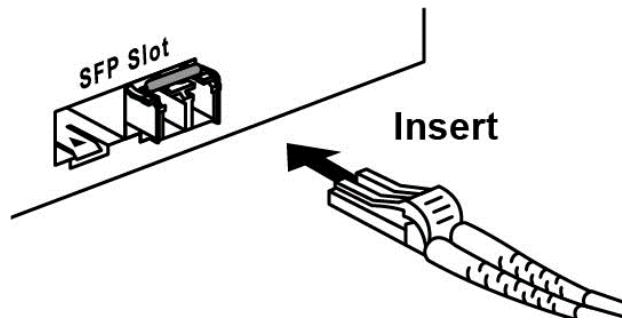

Figure 2.6: LC Connector to the Transceiver
Step 2 Insert the fiber cable of the LC connector into the transceiver as shown below in Figure 2.6.